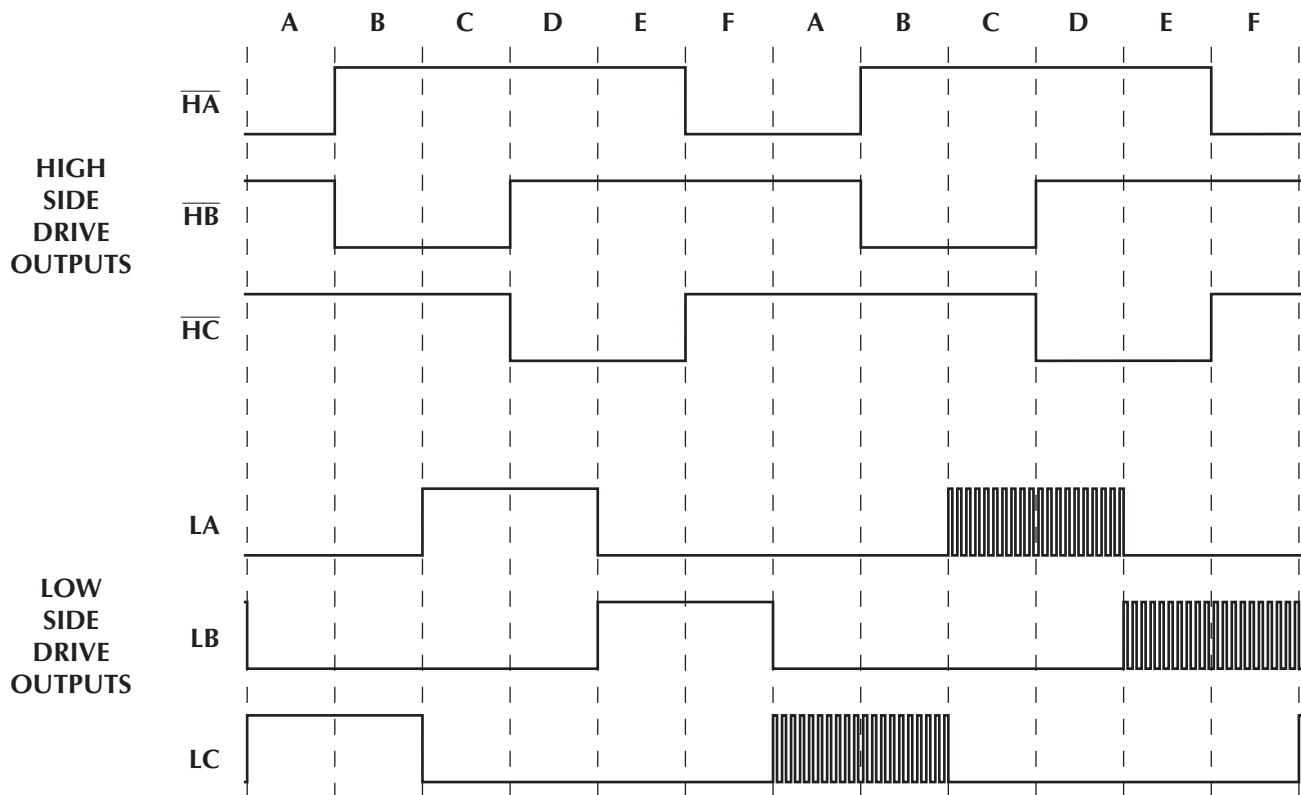

Figure 4. Output Commutation Sequence Timing Diagram (Forward Direction)
**Note 2:** For explanation of states, see Figure 4 and Table 1.
one N output from one phase and one P output from another phase. There are six combinations of N and P outputs (six switching states) that constitute a full commutation cycle. These combinations are illustrated in Table 1 and Figure 4, and are labeled states A through F. This sequence is programmed into the commutation state machine. Clocking of the commutation state machine is provided by a voltage controlled oscillator (VCO).